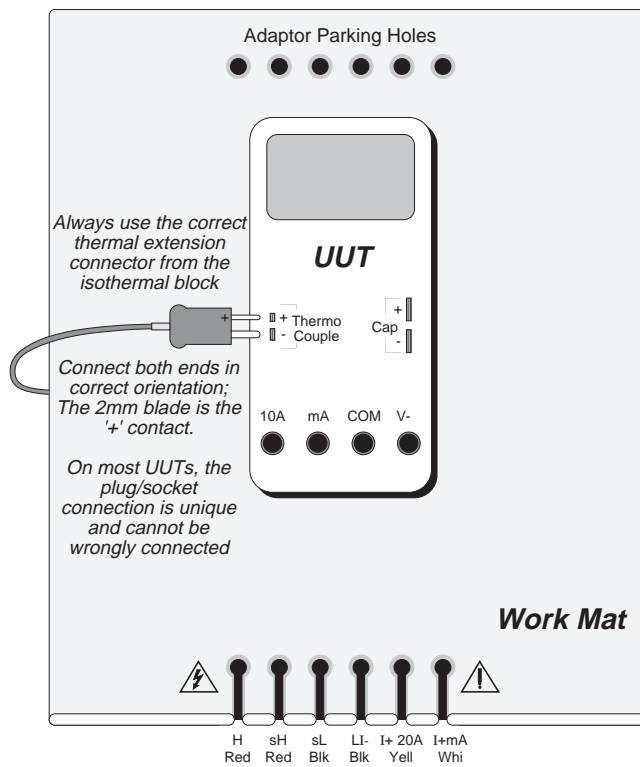

Fig. 14.1
The general connection scheme for UUT calibration is illustrated in Fig. 14.1. Always use the correct extension cable from the Thermocouple socket on the 9105 to the UUT Thermocouple input. Observe the correct polarity, otherwise spurious junctions may be set up.
1. Connections Connect the 9100 to the UUT as in Fig. 14.1 , and ensure that both instruments are powered ON and warmed up.
Connect the 9100 to the UUT as in *Fig. 14.1*, and ensure that both instruments are powered ON and warmed up.